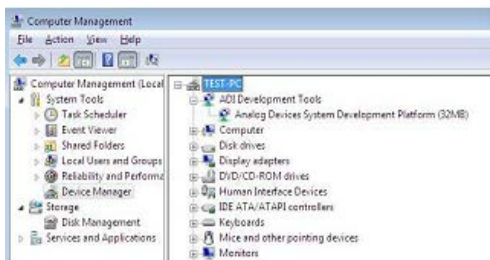

Figure 12. **Device Manager**: Checking if the Board is Connected to the PC Correctly
- c. The **Computer Management** box appears. Click **Device Manager** from the list of **System Tools** (see Figure 12).